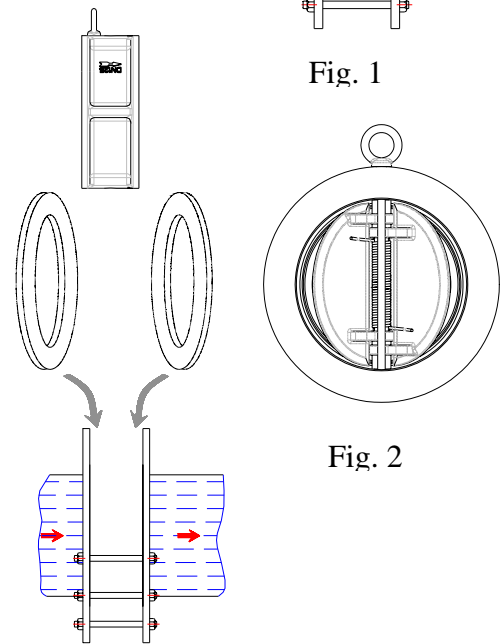

Fig. 2
4. Please install the valve stem vertically as (Fig.2), this reduces spring wear.